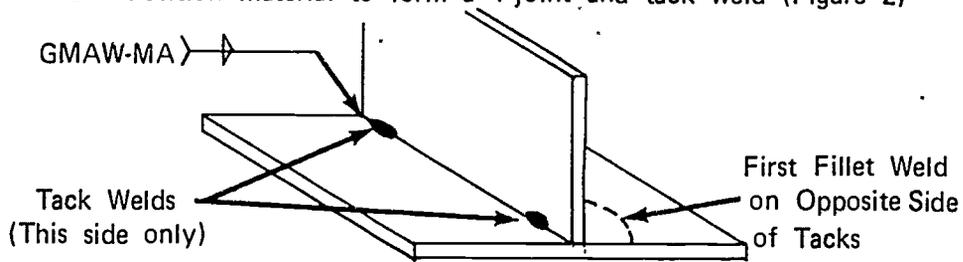

FIGURE 2
D. Position material to form a T-joint and tack weld (Figure 2)